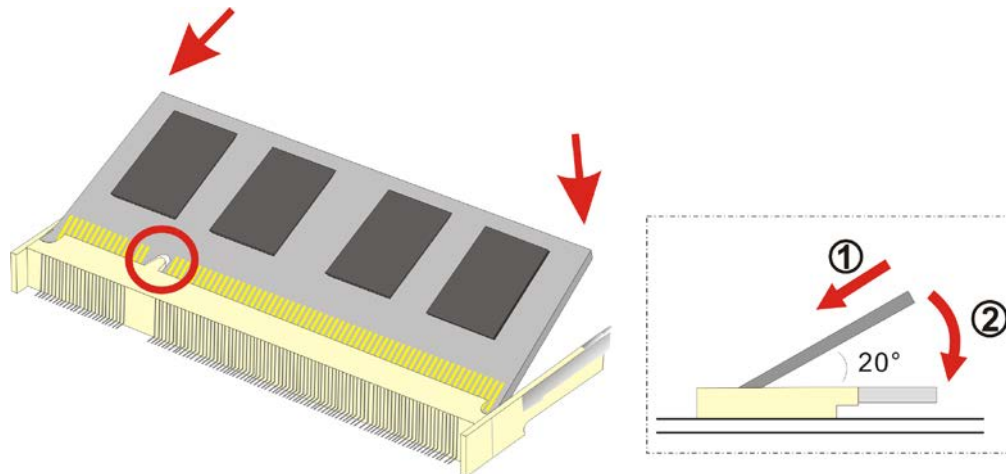

Figure 4-1: SO-DIMM Module Installation
- Step 2:** Push the SO-DIMM chip into the socket at an angle. (See **Figure 4-1**)
- Step 3:** Gently pull the arms of the SO-DIMM socket out and push the rear of the SO-DIMM module down. (See **Figure 4-1**)